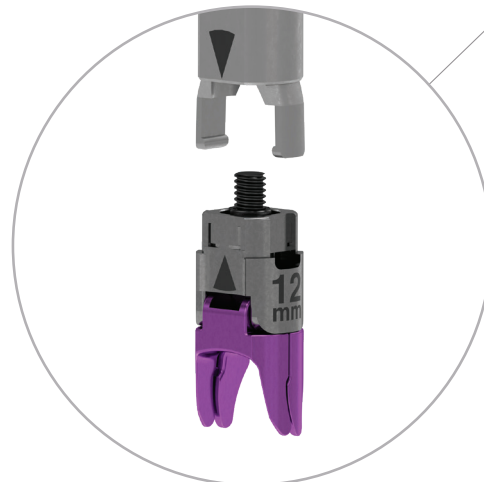

Fig. 7.
1. Align the arrow on the body of the Implant with the arrow on the distal end of the Inserter (Fig. 7).